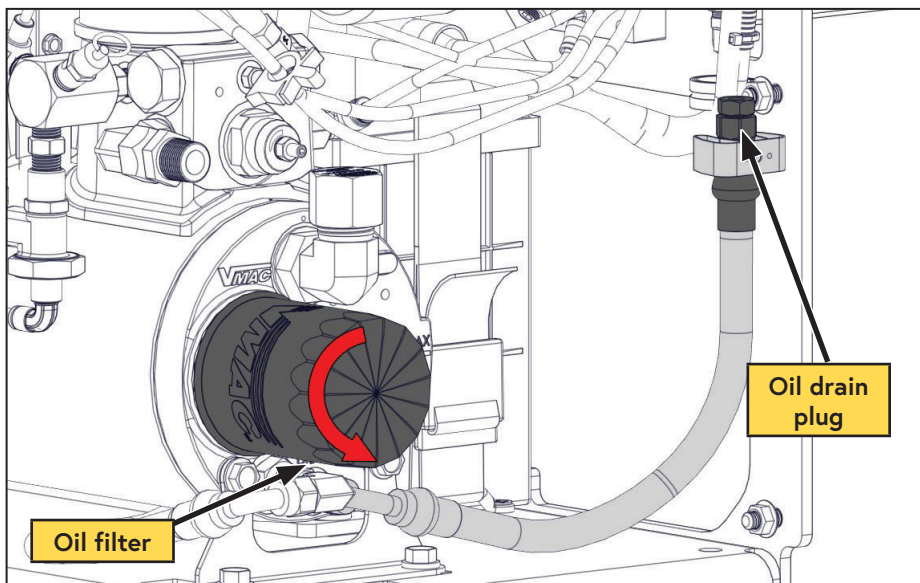

Figure 31 — Compressor oil filter
- Remove the oil drain extension from its holder on the frame and drain the oil into a container with a capacity of at least 4 L (1 USG) (Figure 31).
- Remove the oil filter (Figure 31).